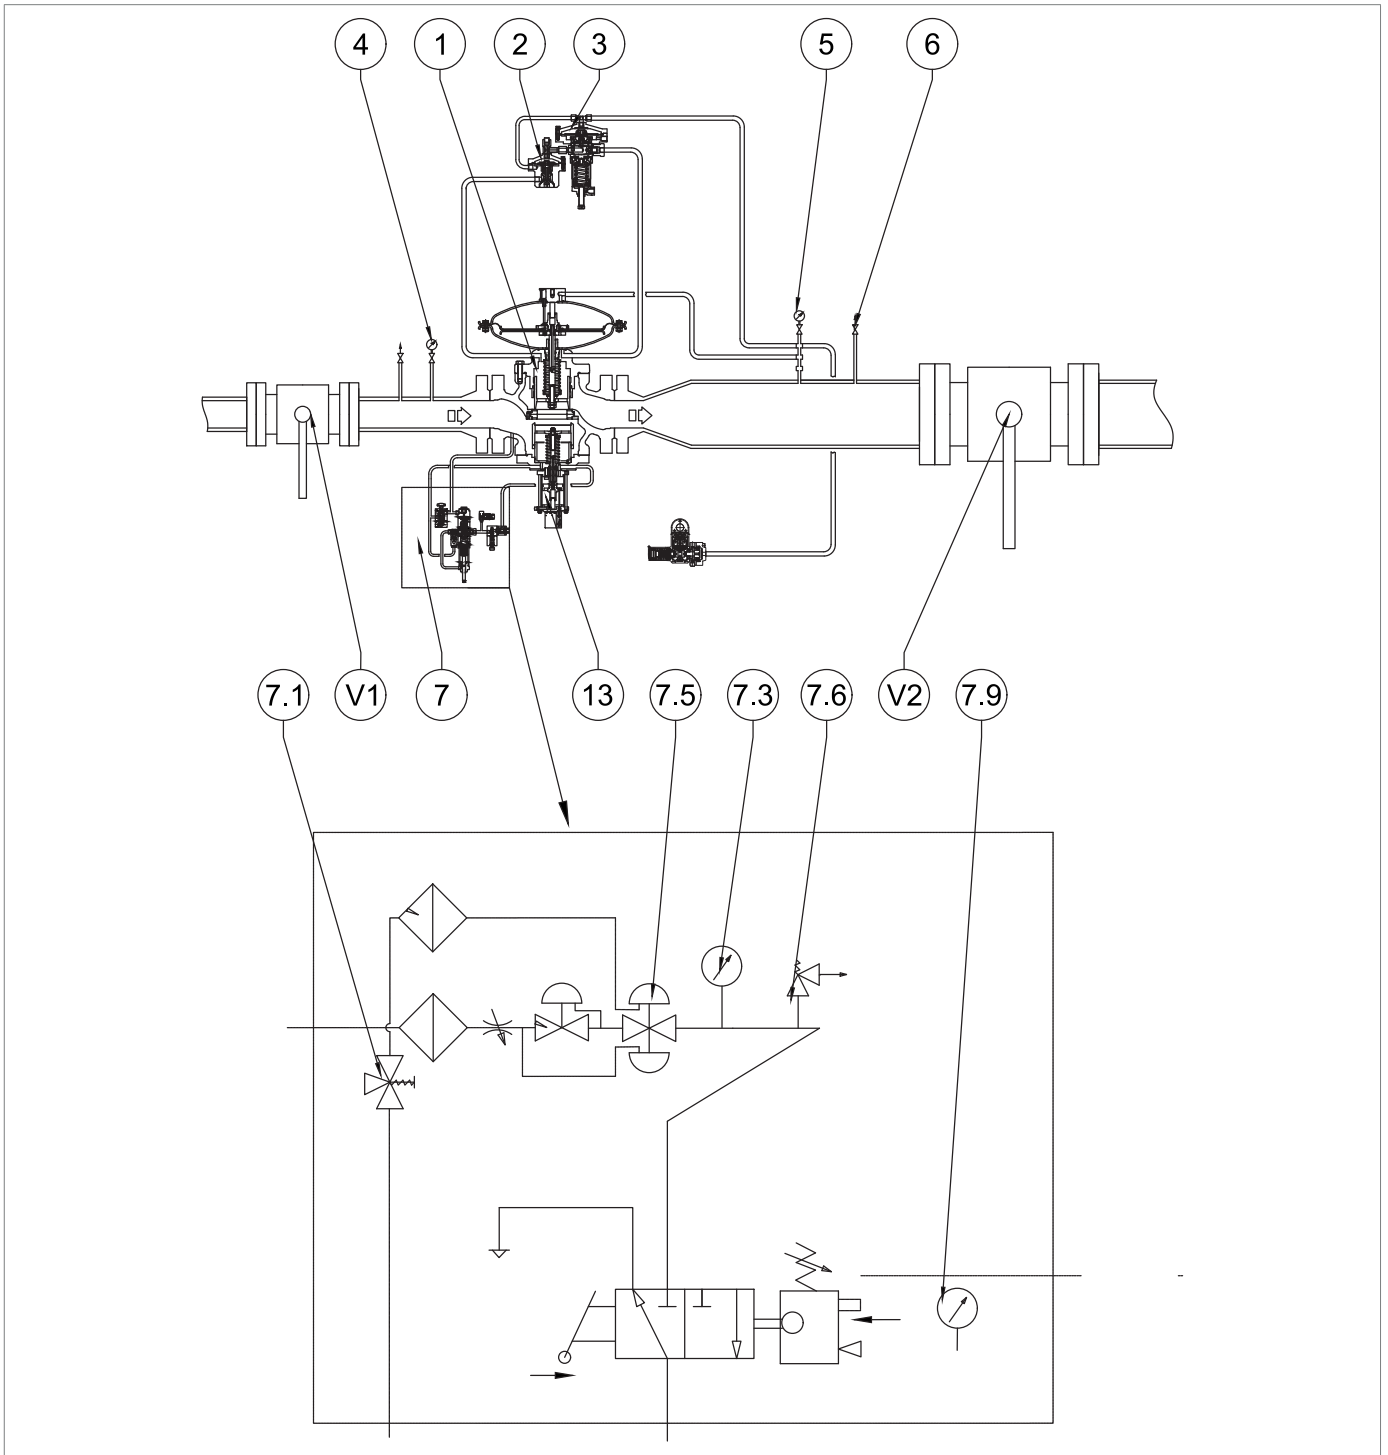

Fig. 8.41. Commissioning and calibration of LINE OFF 2.0 for HB/97 slam-shut valve
- Next, check that the pressure indicated by the pressure gauge installed on the LINE OFF 2.0 device (Pos. 7.3 - Figure 8.41.) is 0 bar, ensuring complete depressurisation of the line.